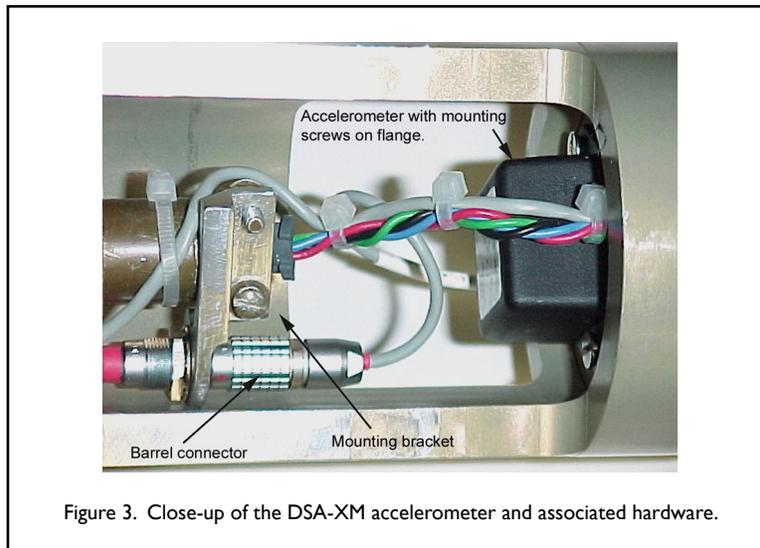

Figure 3. Close-up of the DSA-XM accelerometer and associated hardware.
- B. The DSA-XM was designed to allow for customization of sensor selection depending on the particular application needed. The most commonly customized sensor is the three-axis accelerometer shown in Figure 3. This sensor is available in 4g or 25g ranges. The 4g model is typically installed for most applications. In applications where the widest range of accelerations is expected to be encountered, the 25g accelerometer must be installed. The installation process is very simple and takes only a few steps: Disconnect the silver barrel connector (and mounting bracket if necessary), then remove the screws holding the accelerometer in place. To install the accelerometer, simply reverse the process.